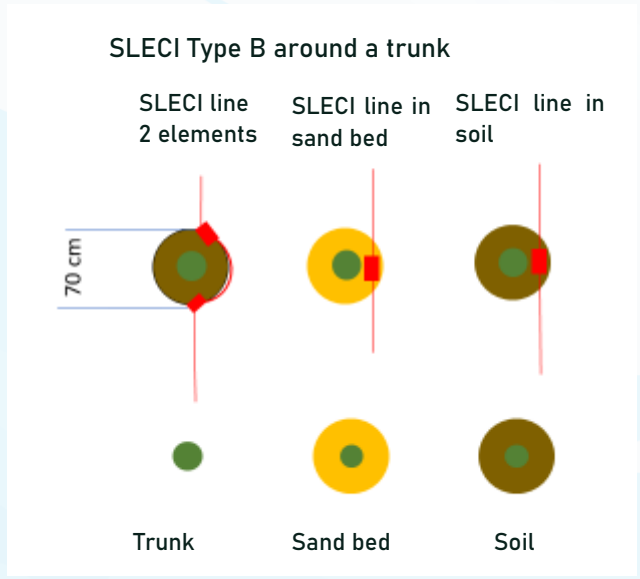

Figure 3-2e: SLECI system Type B variant from new planted crops
- Fig. 3-2e: Installation for older plantings